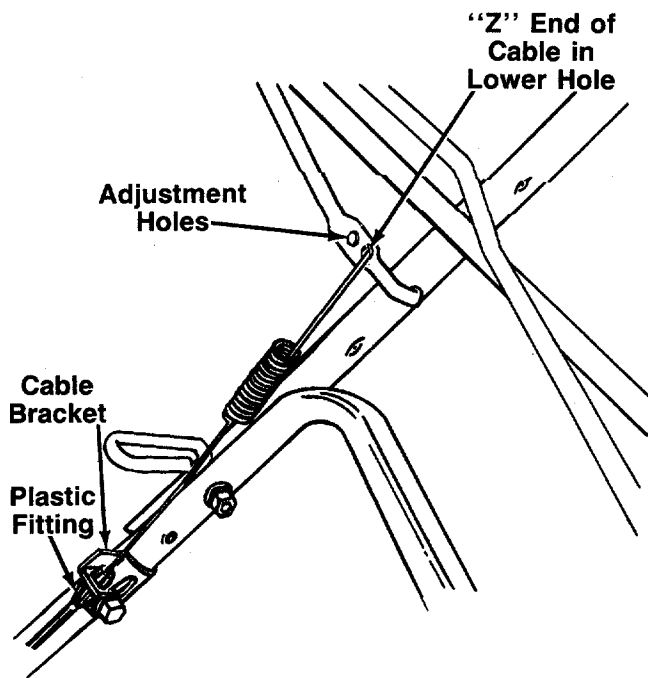

FIGURE 5.
1. The drive clutch cable is attached to the drive cover, and has a spring on one end. Route the clutch cable around the base of the engine (right hand side), inside the handle mount bracket and under the lower handle. Hook the spring on the end of the cable into the lower hole on the drive clutch handle. See figure 5.
3. With the drive clutch control handle released, pull down on the cable and cable bracket until there is a minimum of 1/8" clearance between the drive pinions and the drive wheels. See figures 5 and 6. Tighten the cable bracket in this position.